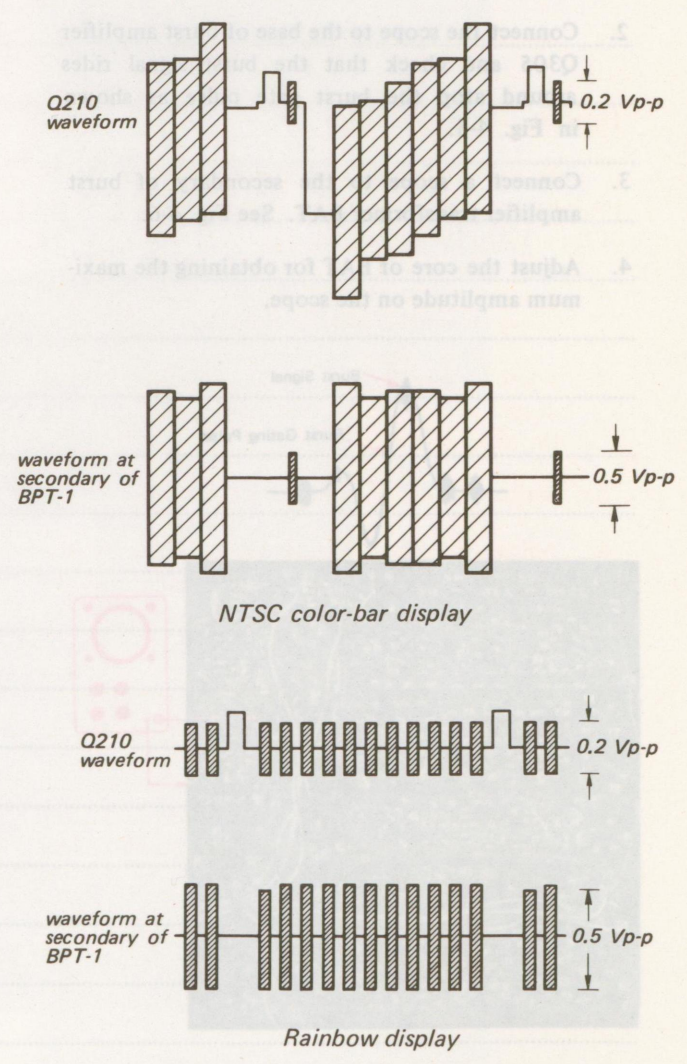

Fig. 4-9. Waveform setup for ACC amplifier
6. Adjust the color-bar generator to produce a burst signal of 0.2 Vp-p when the NTSC color-bar signal is used. When the rainbow signal is used, adjust the control to produce 0.2 Vp-p. See Fig. 4-9.